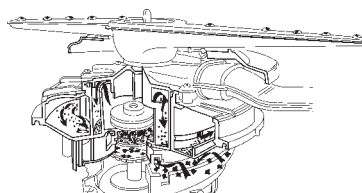

Fig. 3-2
4. Water is pumped from the tub carrying soils from the separator into the drain sump of the pump. (Fig. 3-2)